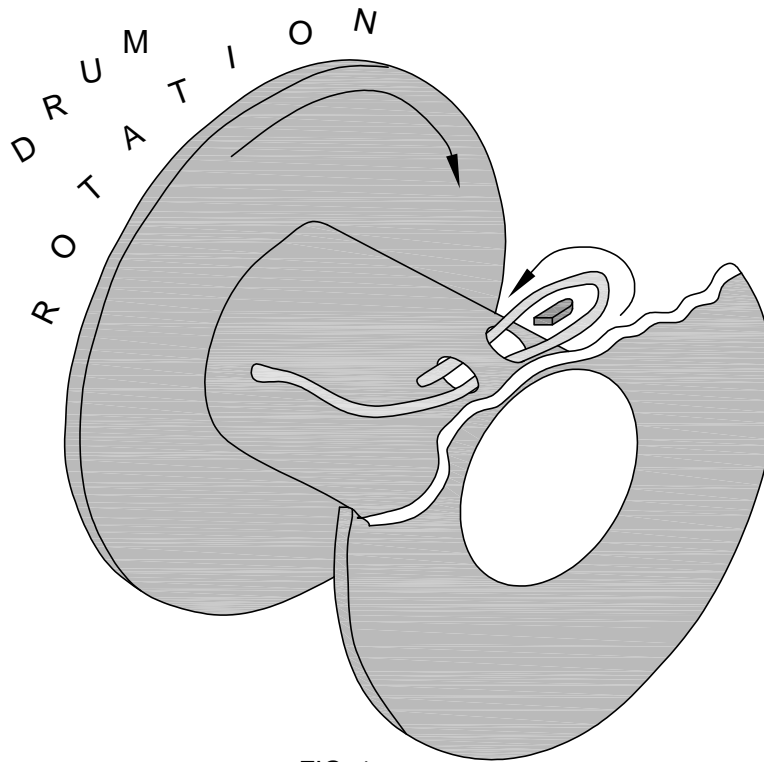

FIG. 1
- STEP 3:** INSERT WIRE ROPE END INTO POCKET OPENING ON WINCH, WRAP AROUND WEDGE, AND BACK THROUGH POCKET OPENING AS SHOWN IN FIGURE 1.
Each valve station incorporates [2] hydraulic ports and [2] coils. Manual override shafts are located in the center of the coils (see figure 1). Manual override decals are placed on each crane near the valve assembly. These decals provide a visual aid that helps the operator determine the function designations (Reference figure 2).